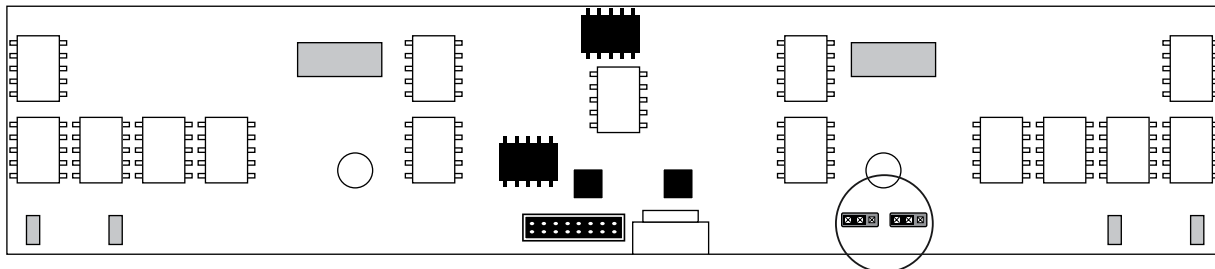

FIGURE 4: Location of jumpers on back of the rear panel
STEP 3: Locate jumper position J1 on the rear panel board of the unit. Using needle-nose pliers, move the jumper from between pins 1 and 2 to pins 2 and 3. (See FIGURES 4 and 5)